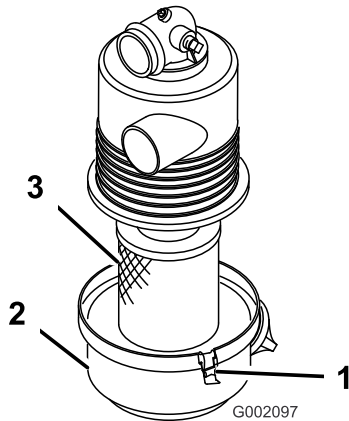

Figure 12
1. Check the air cleaner body for damage, which could possibly cause an air leak. Ensure that the cover is sealing around the air cleaner body (Figure 12).
2. Release the latches securing the air-filter cover to the air-filter housing (Figure 12).
3. Separate the air-filter cover from the air-filter housing, and clean the inside of the cover (Figure 12).
3. Insert the air-filter element into air-filter housing (Figure 12).
4. Align the air-cleaner cover with the air-cleaner housing (Figure 12).
5. Secure the cover to the housing with the latches (Figure 12).